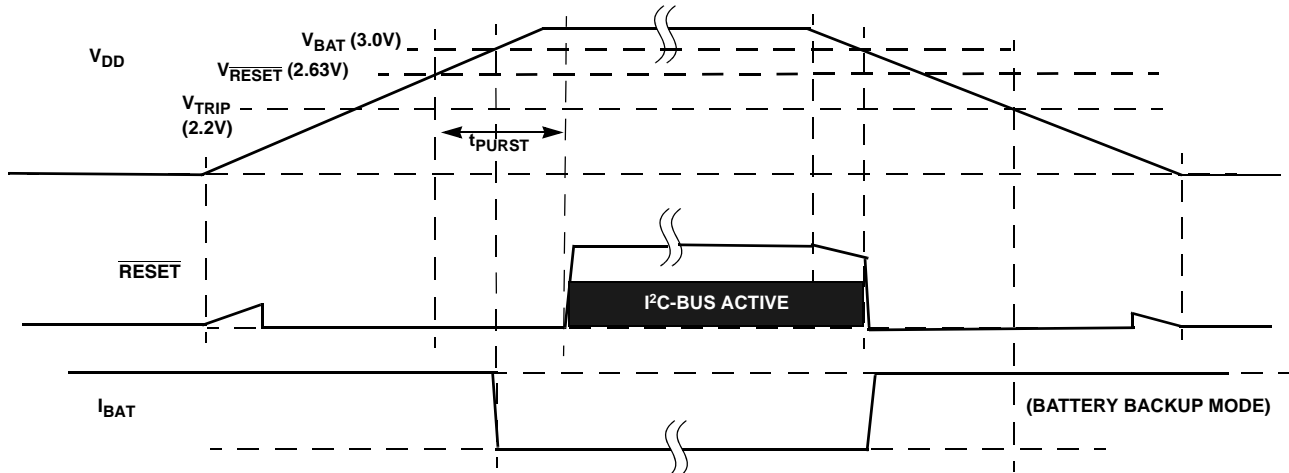

FIGURE 30. RESET OPERATION IN MODE D
- Mode D - In this mode, the selection bits indicate switchover to battery backup at  $V_{DD} < V_{BAT}$ , and no I2C communications in battery backup. This mode is unique in that there is I2C communication as long as  $V_{DD}$  is higher than  $V_{RESET}$  or  $V_{BAT}$ , whichever is greater. This mode is the safest for guaranteeing I2C communications only when there is a Valid  $V_{DD}$  (see Figure 30).